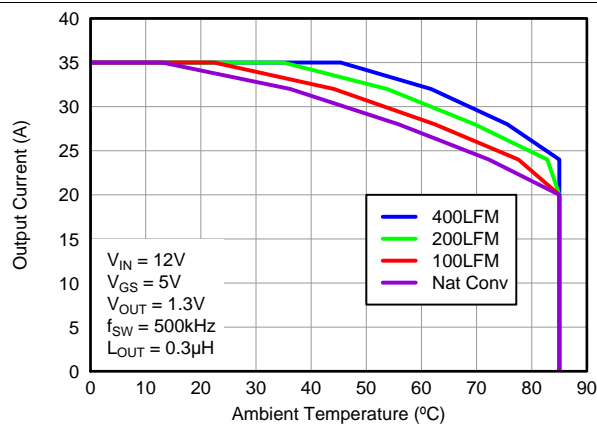
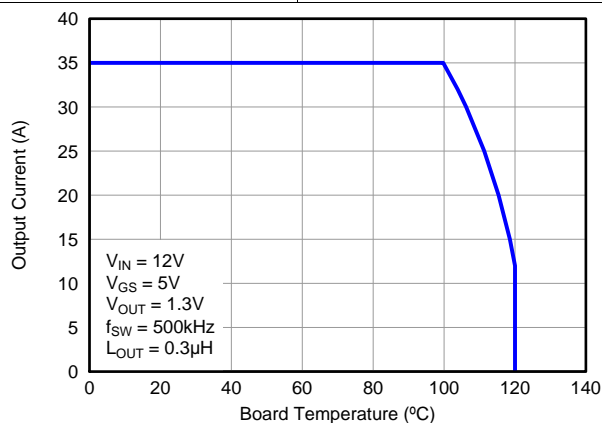

Figure 3. Safe Operating Area – PCB Vertical Mount⁽¹⁾
Figure 5. Typical Safe Operating Area⁽¹⁾
The SOA curves in the CSD87351Q5D data sheet provides guidance on the temperature boundaries within an operating system by incorporating the thermal resistance and system power loss. Figure 3 to Figure 5 outline the temperature and airflow conditions required for a given load current. The area under the curve dictates the safe operating area. All the curves are based on measurements made on a PCB design with dimensions of 4 in (W) × 3.5 in (L) × 0.062 in (T) and 6 copper layers of 1-oz copper thickness.